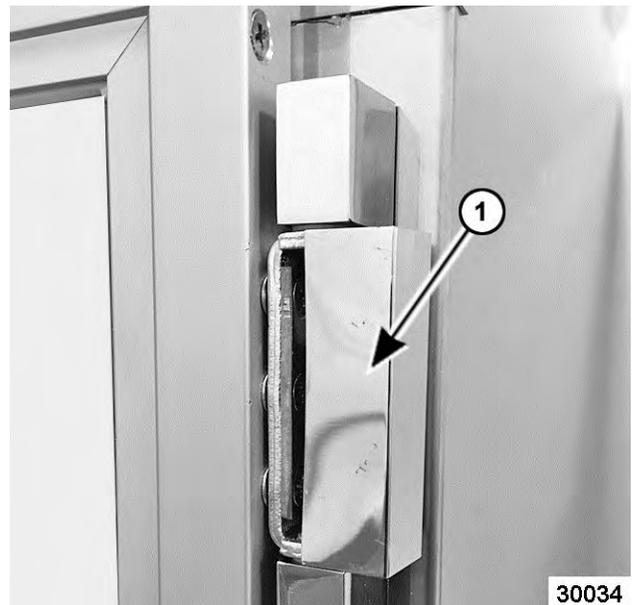

Fig. 30
1. Remove door hinge covers (1, Fig. 30) from lower and upper door hinge.